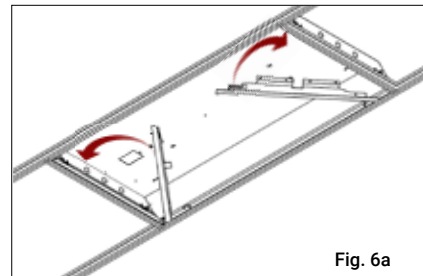

Fig. 6a
6. Install retrofit mounting brackets into the existing troffer as shown in corresponding images below. The brackets fit between the t-bar frame and the existing troffer. Insert one end of the bracket between the frame and troffer then rotate into place under the ends of the troffer. Screw into place with the included #8 self-drilling screws. (See Fig. 6a & 6b)